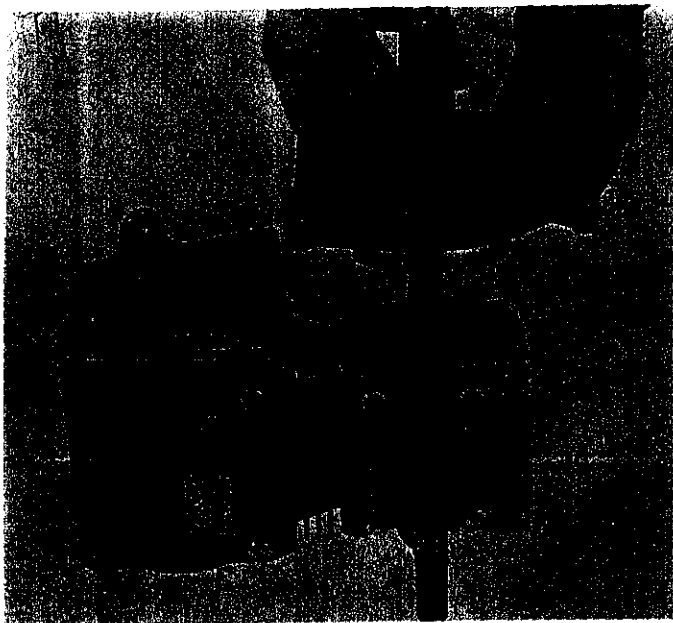

FIGURE 21. INSTALLING SUPPORT PLATE
45. Assemble cylinder cover to cylinder as shown in Fig. 21. Install, but do not tighten, the four 1/4-20 x 7/8 pan head screws.
47. Install T-2916 seal sleeve in support plate as shown in Fig. 21. Insert the sleeve just far enough so that it extends just past the bottom edge of the seal.